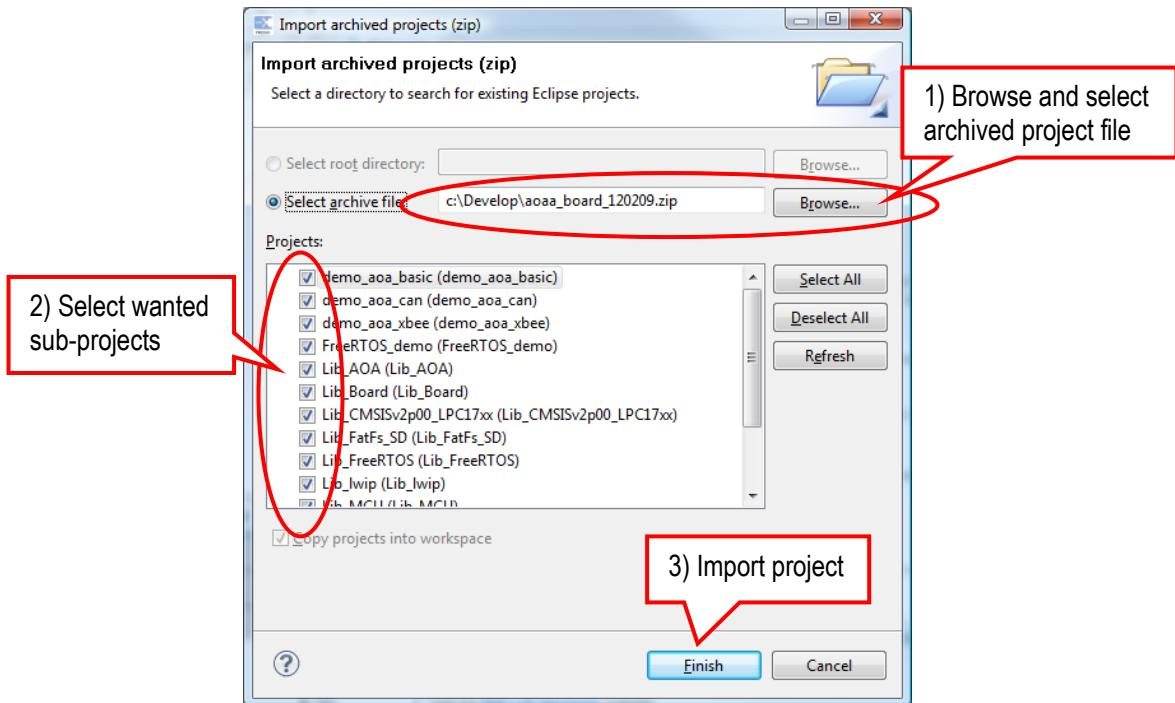

Figure 23 – LPCXpresso IDE Import Archived Project Window
5) Browse and select the downloaded zip file containing the archived sample applications. Select all sub-projects to be imported, see Figure 23 below.